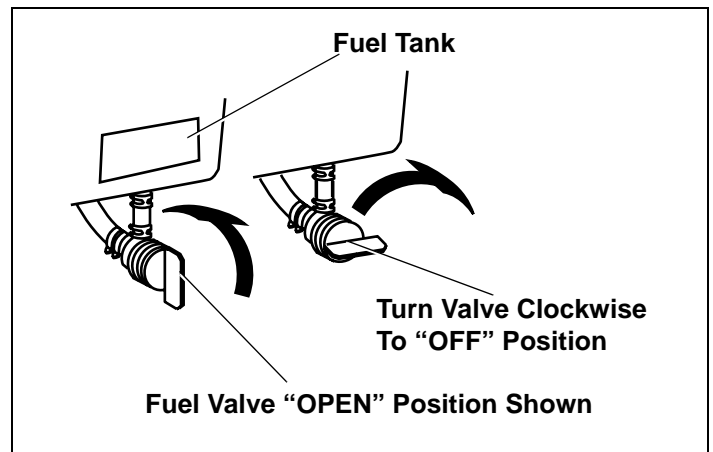

Figure 13. Fuel Valve Positions
6. Be sure fuel valve, if present (see equipment manufacturer's instructions) is open. See Figure 13 on page 7.
3. Be sure fuel valve, if present (see equipment manufacturer's instructions) is open and all switches are on. See Figure 13 on page 7. Afterward, continue reading instructions below.